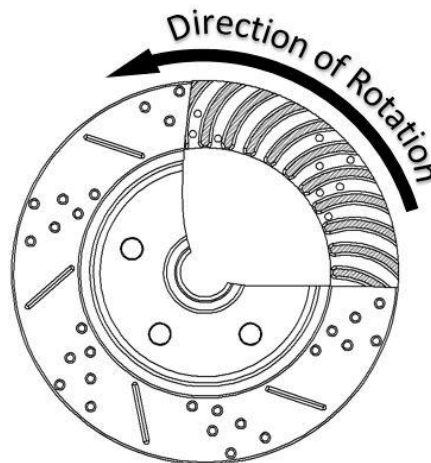

Figure 2 – Direction of Rotor Rotation
6. With the bracket assembled on the spindle, slide the rotor onto the spindle. The new rotors come with premium bearings pre-installed and packed with Red Line Synthetic wheel bearing grease. **NOTE:** It is not necessary to add more grease. Apply a small amount of grease to the hub sealing surface and install the rotor assembly. Using the new castle nut along with the nut retainer, tighten the nut to 5-10 ft/lbs. Loosen the nut and tighten the nut again using the same 5-10 ft/lbs. Do this a couple of times spinning the rotor to fully seat the wheel bearings onto the spindle. Loosen the nut a final time and re-tighten to remove all play. Tighten approximately an additional 1/16th of a turn to give the appropriate pre-load and line up the cotter pin hole. Install the cotter pin and dust cap. See Figure 2 below for correct placement of left and right rotors.